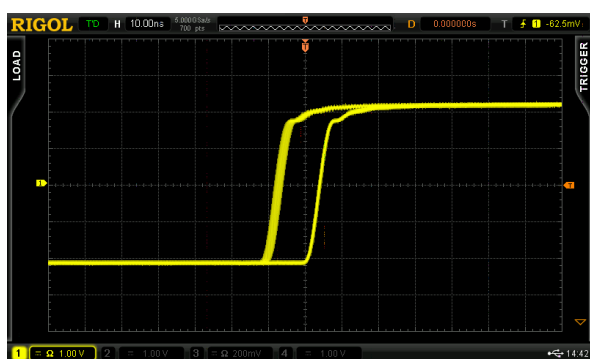

Figure 8 Failed Waveform 1 of Equivalent Calibration
4. Press **CH1**, then press the menu key **Input** and set the input impedance of CH1 to 50Ω. Observe the jitter of the trigger position of the signal at 10ns and 2ns horizontal scales respectively. Calibrate again if the jitter is as shown in figure 8 or 9.